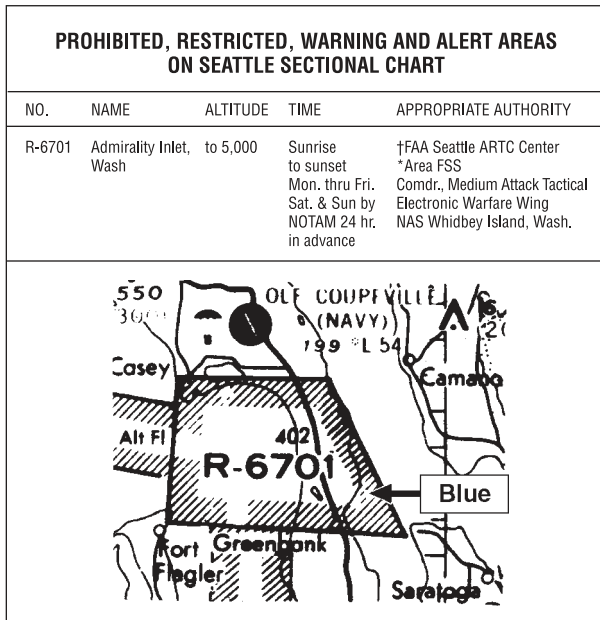

Figure 3-12. Restricted Area
**Restricted Areas.** The next step down is a Restricted Area (Figure 3-12). They are designated and controlled by the military and usually involve firing ranges, etc. A table on each sectional chart gives the operating hours and altitudes for each Restricted Area. The operating hours are not engraved in stone, however. During your preflight briefing, ask the FSS if a Restricted Area in the areas in which you plan to operate are “hot,” or give the controlling agency a call (at Navy Whidbey, the status of their Restricted Area is on the ATIS). According to regulations, remote PICs must get permission to fly within restricted airspace. But don’t expect to receive permission to fly in them unless you are part of what is going on inside of them.